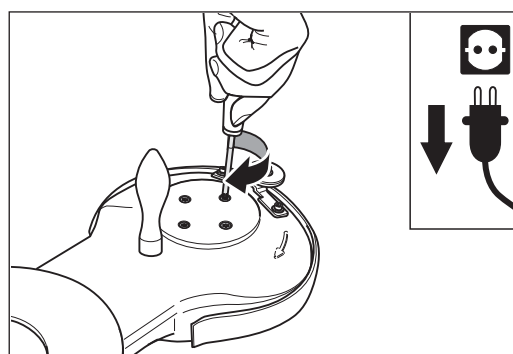

Fig. 75 Using the countersunk screws to tighten the bearing unit of the sanding disc wheel.
- 20** Screw the countersunk screws on the attachment into the bearing unit of the sanding disc wheel (Fig. 75). Make sure that the bearing unit is correctly seated in the attachment. Then tighten the countersunk screws firmly.